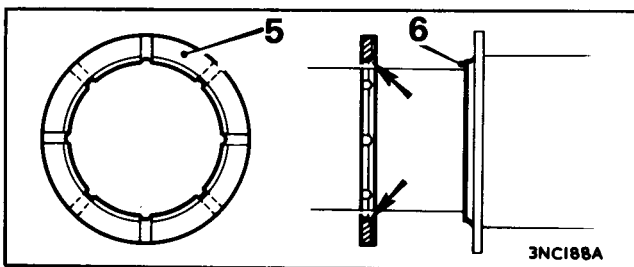

Fig. A.32
21. Check the primary gear end-float with feeler gauges, see Fig. A.32; the amount of end-float should be from 0.0035 to 0.0065 in (0.089 to 0.165 mm). Adjust if necessary by fitting the correct thickness thrust washer from the range given below.
30. Refit the primary gear with its selected front thrust washer, backing ring, and rear thrust washer, Fig. A.32.